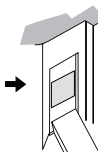

Figure 4d
- Chisel 0.1" (2mm) deep for Strike Plate or until it is flush (Figure 4d).